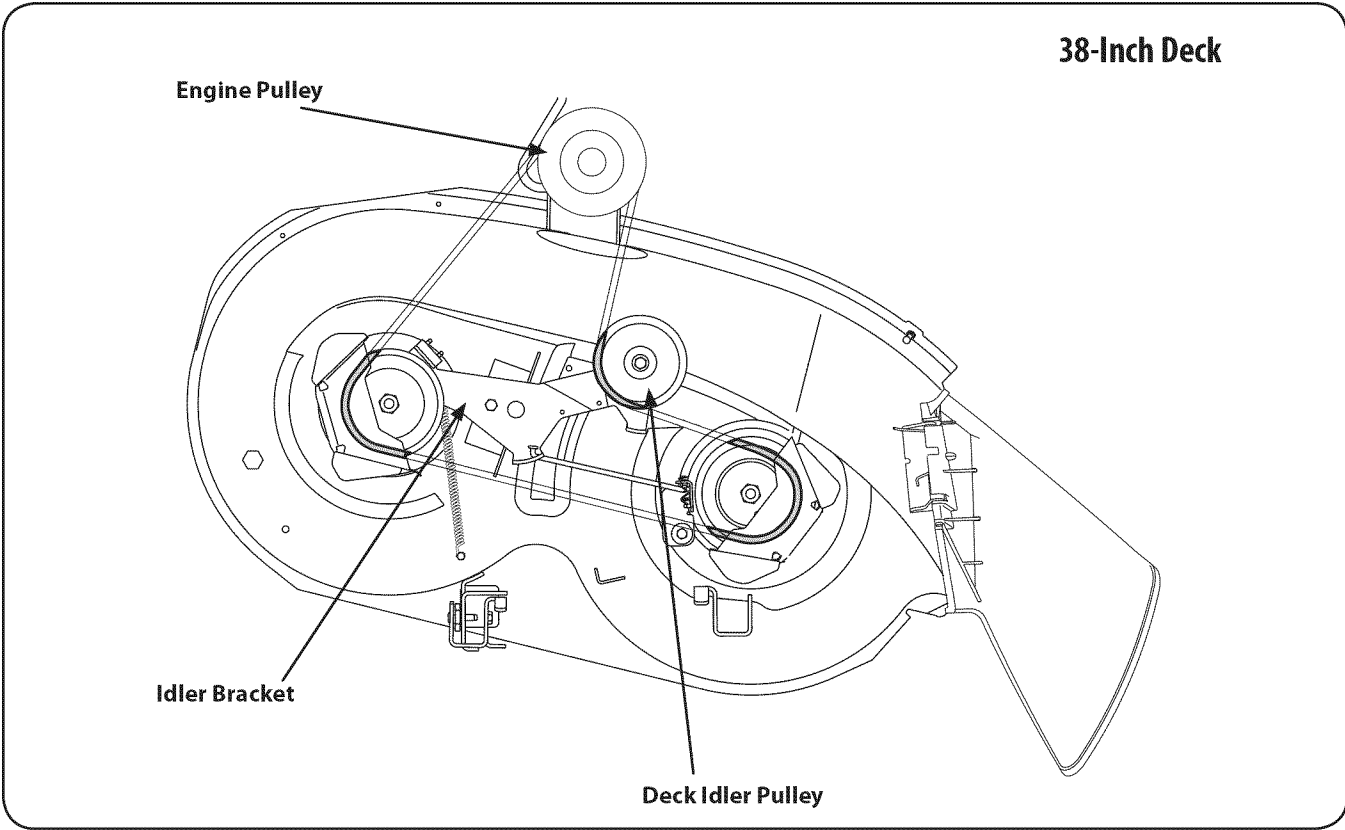

Figure 7-10
5. Route the new belt as shown in Figure 7-10.